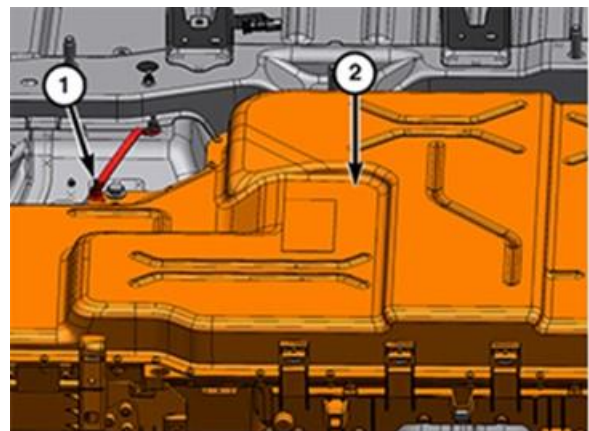

**Figure 34 – HV Battery Fastener and Ground Cable**
37. Remove the fastener (1) and the chassis ground cable from the HV battery (2) (Figure 34).
31. Connect the three HV wire harness connectors (1) (Figure 34).